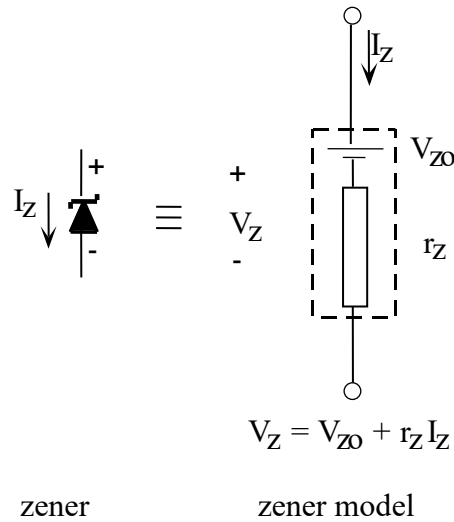

Fig. 4b: Zener diode model
A zener is specified by its voltage V_Z at some test current I_Z (point P), its power rating and its incremental resistance r_Z , the inverse of the slope of the characteristic at I_Z . This line cuts the V axis at V_{Z0} . The I-V relationship may be modelled by the combination of a voltage source V_{Z0} and resistance r_Z shown in Fig. 4b.
- b. By modelling the zener diode as shown in Fig. 4b, calculate (using your measured values for r_z) what you would expect the line stability ratio to be. Compare your result with this value.